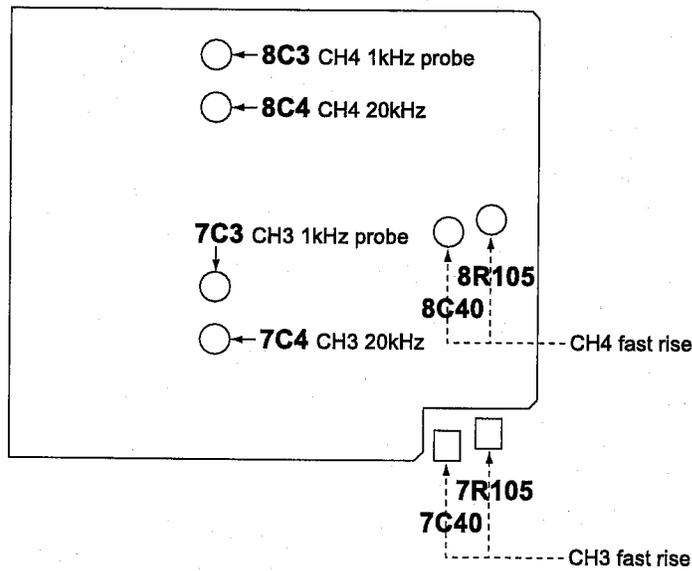

Figure 2.8 ANA MAIN BOARD III (CH3/CH4 ATT UNIT)
- Figure 2.8 ANA MAIN BOARD III (CH3/CH4 ATT UNIT) : See page 2-22